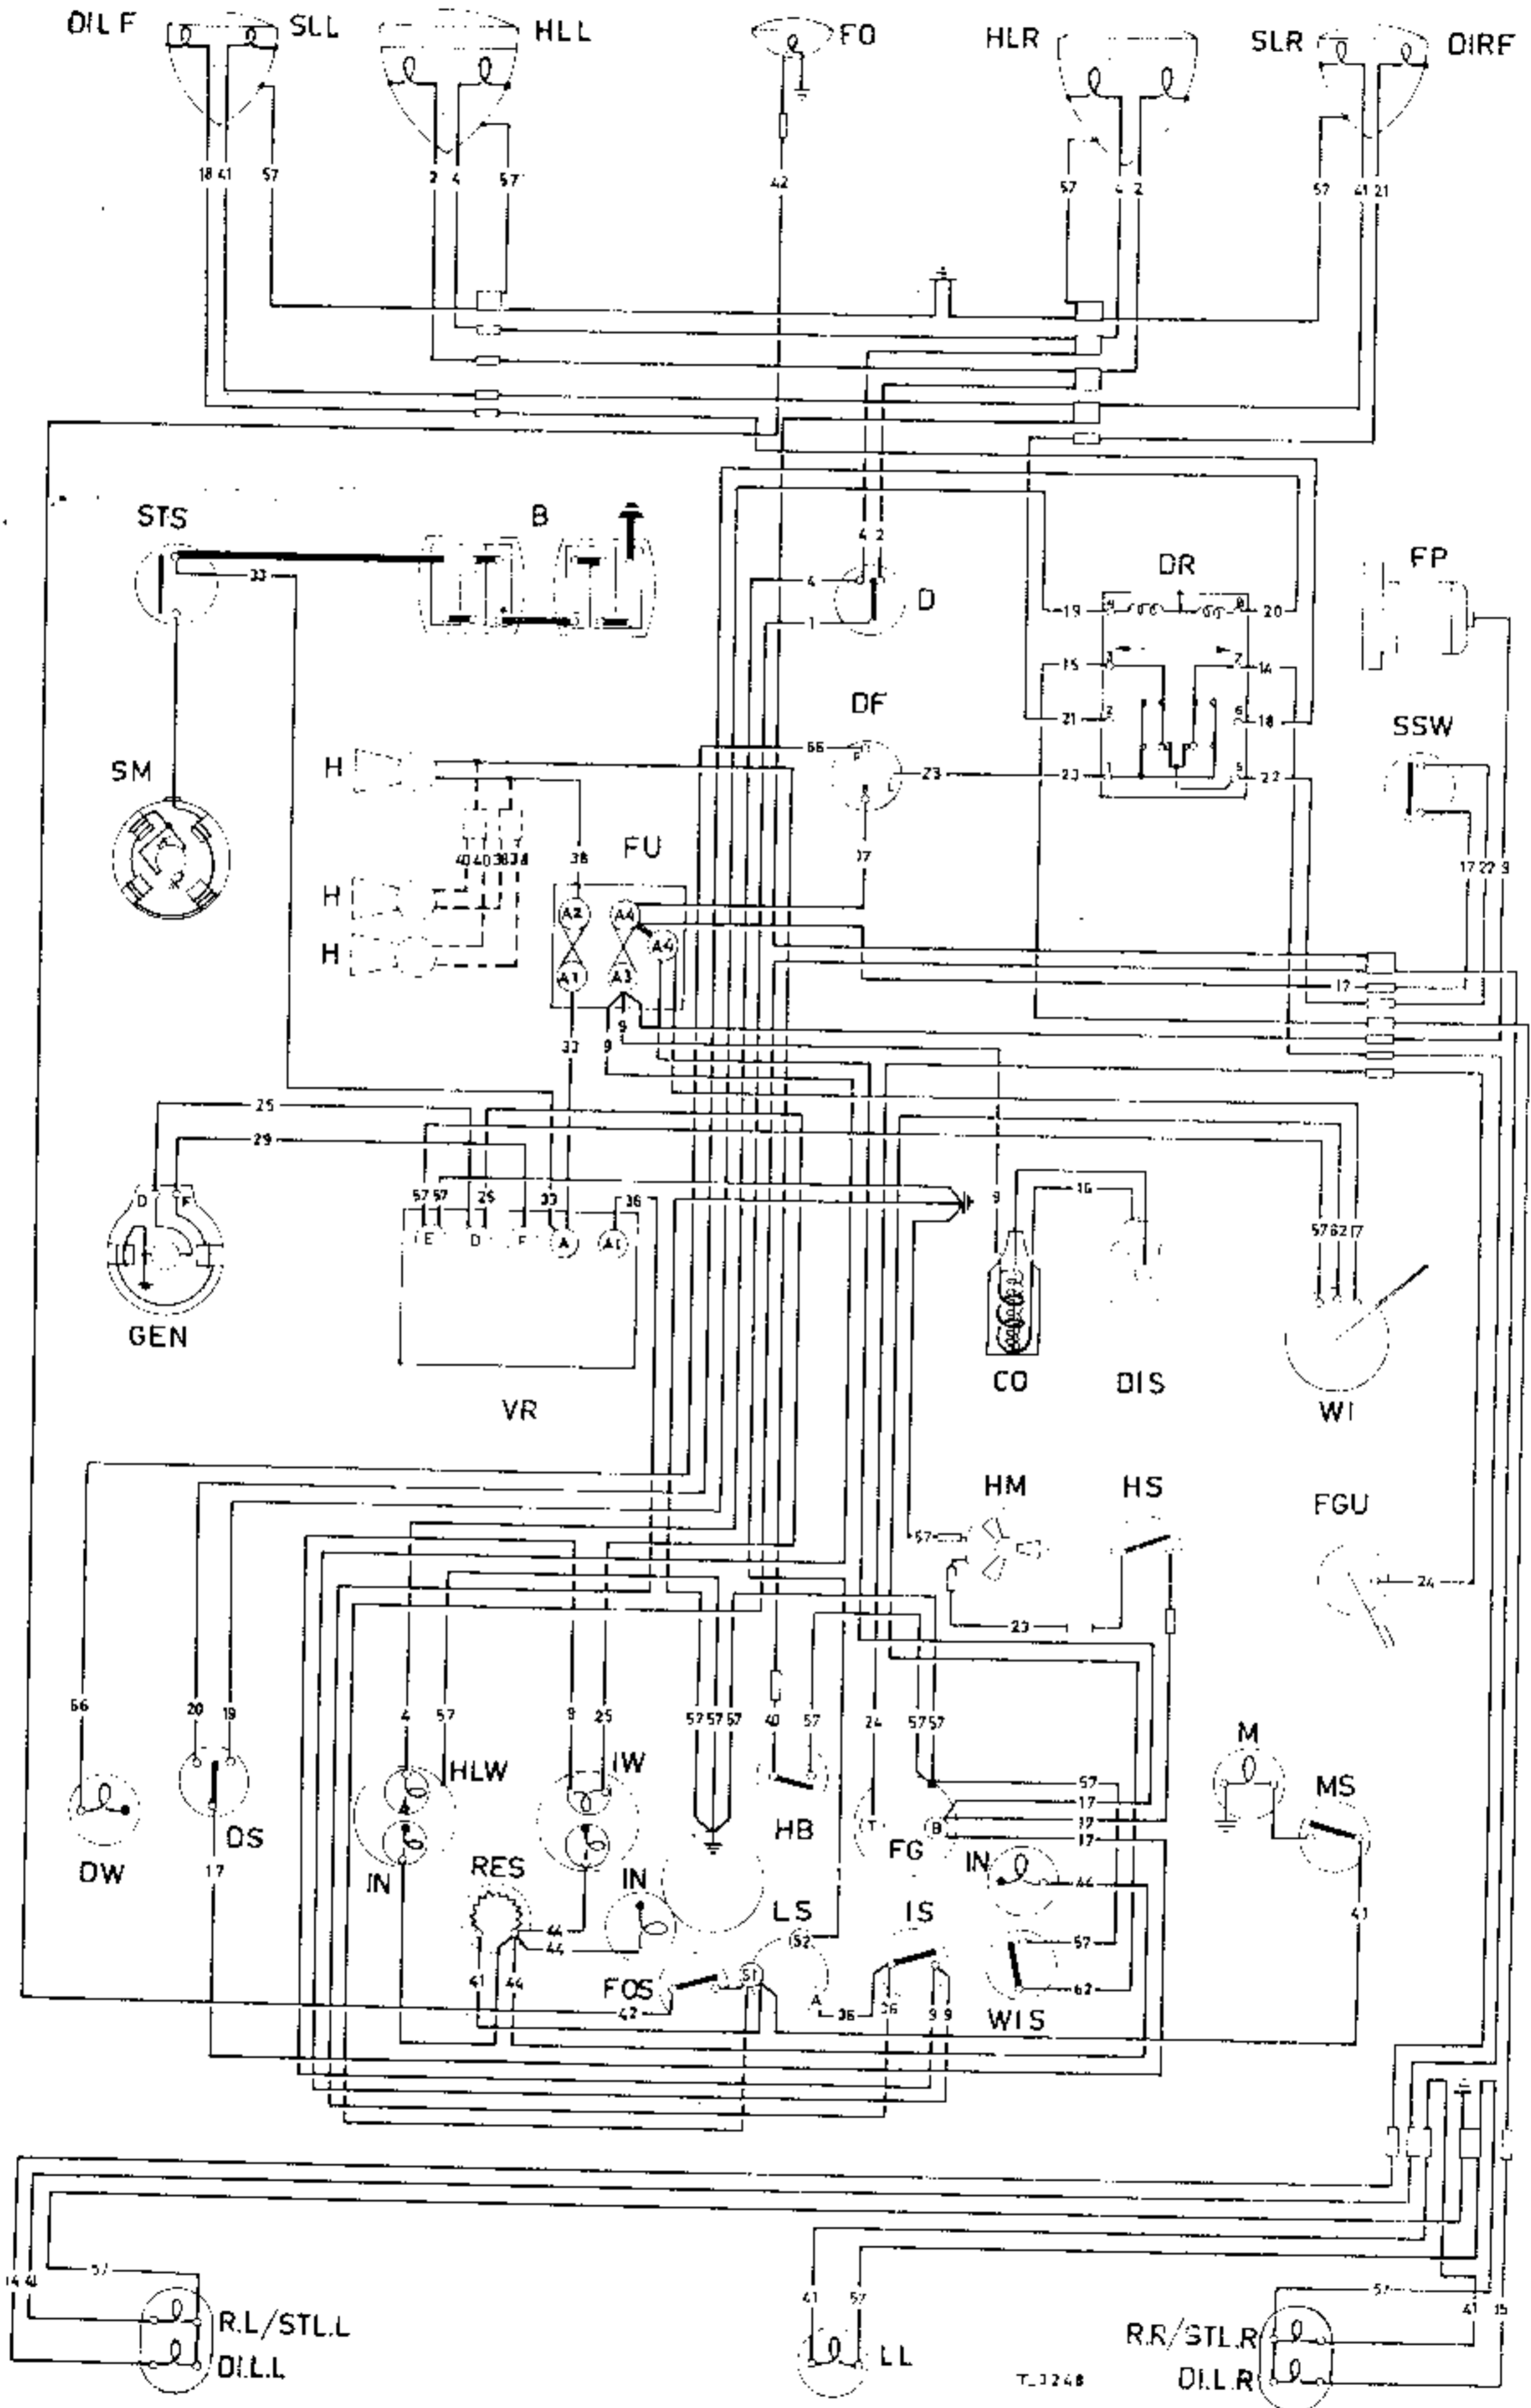

Fig. 37. Wiring diagram, MGA (1500)
**Wiring diagrams:** See Figs. 37 and 38.
*Key to Fig. 37*
*Key to wire colours of Fig. 37*